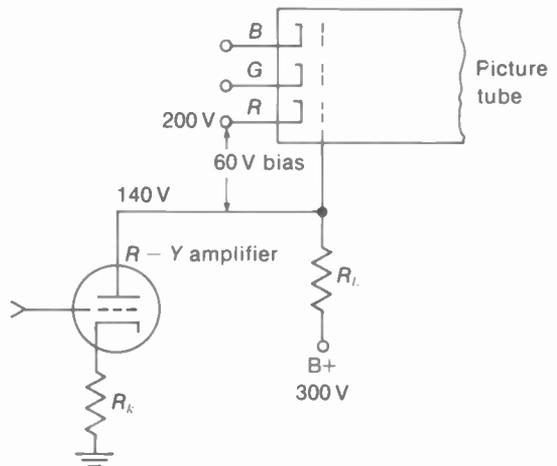

FIGURE 9-9 DC COUPLING TO PICTURE TUBE DETERMINES ITS BIAS.
It should also be noted that the color video amplifiers are often dc-coupled to the picture tube. Then a trouble that changes the dc voltages in the amplifier stage will affect the bias voltage for each gun. The dc coupling is illustrated in Fig. 9-9. Here the bias is  $200 - 140 = 60$  V, negative at the control grid of the picture tube.
2. Referring to Fig. 9-9, if the  $R - Y$  amplifier does not conduct any plate current, calculate the (a) plate voltage; (b) grid bias for picture tube.